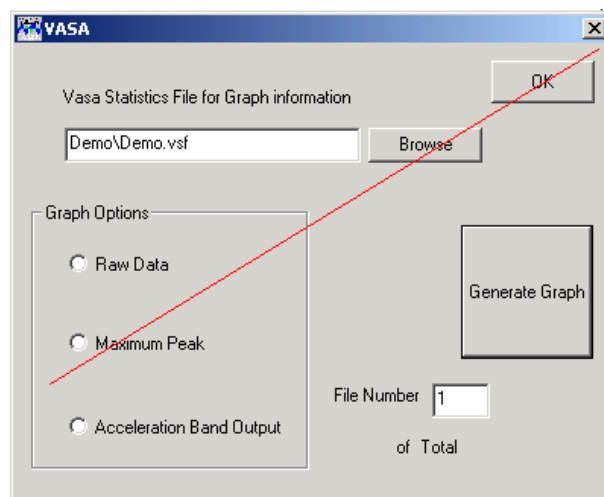

Figure 11: Opening window of VASA100
Step 13: Using Windows Explorer, search for and run the installed VASA program **VASA100.exe** in C:\vasa The opening window is figure 11.